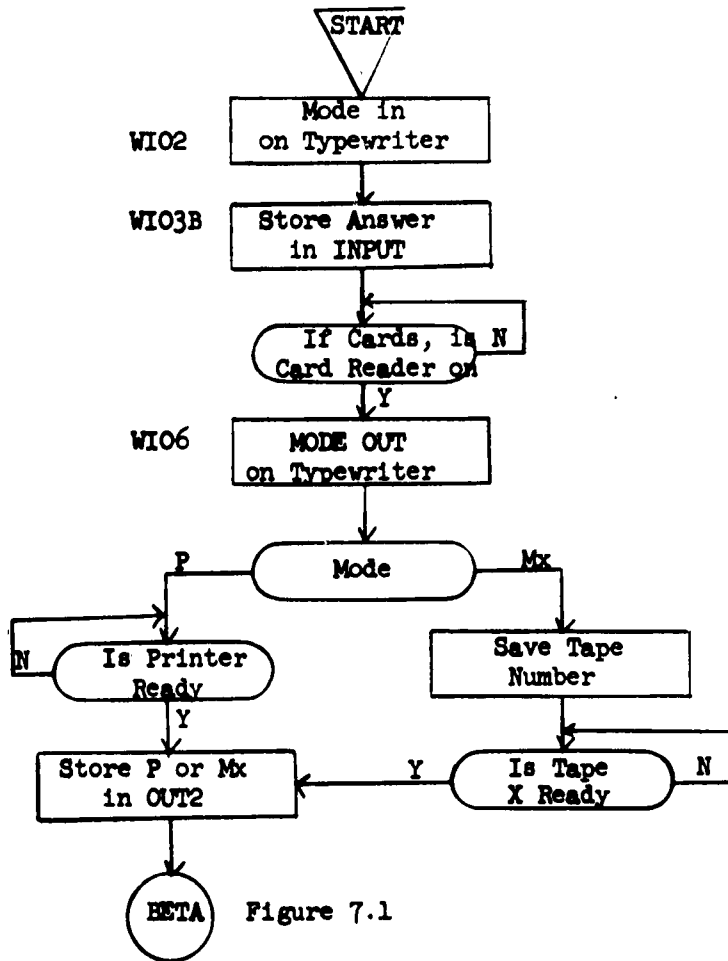

Figure 7.2 Input-Output Section
7.2.1 I-O Section (Figure 7.2)